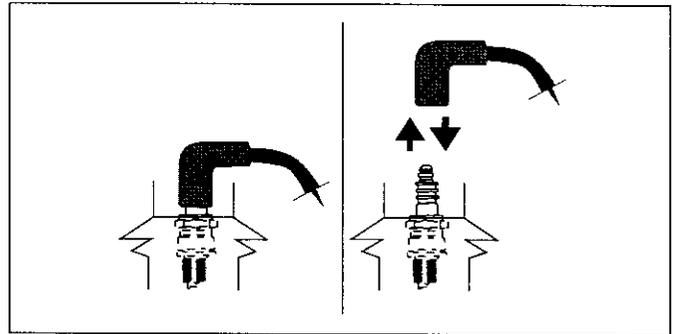

Figure 17. Disconnecting/Connecting Spark Plug
- Disconnect spark plug wire and keep it away from spark plug. See "G. Avoid Accidental Starts" instructions on page 2. See Figures 17 and 18.